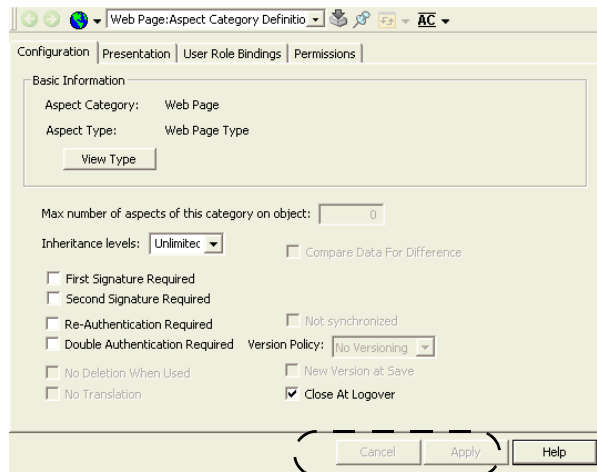

Figure 87. Configure Critical Aspect Views
5. Select the **Configuration** tab in the configuration view and mark the **Close At Logover** check box, refer Figure 87.